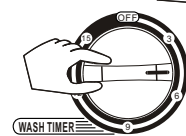

Figure 4
5. Select wash time (Figure 4)